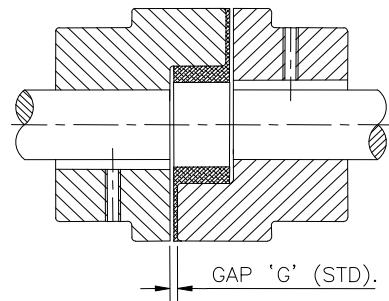

Fig. 2a
Mount hubs/adapters (*) on their respective shafts with keys such that the shaft ends are flush with inner face of the adapter & tighten the set screw over the keys. Bring both the coupling hubs/adapters (along with equipments) closer so as to maintain gap 'G' as shown in fig. 2a.
- The distance between two faces of coupling halves is to be maintained as specified. The variation in this distance should not exceed the permissible initial axial misalignment given in table 'C1/C3'. (Refer Fig. 2a, 2b)